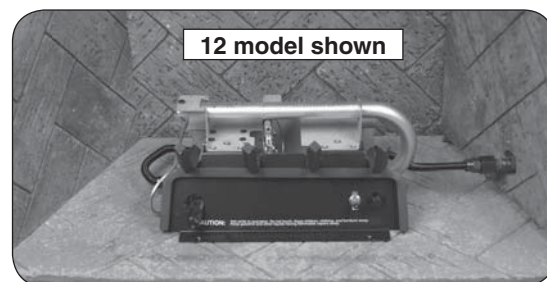

Fig. 15-2 Overall orientation
3. Place the burner system in the fireplace. Center the burner in the fireplace. (Reference Fig. 15-2 for orientation.)